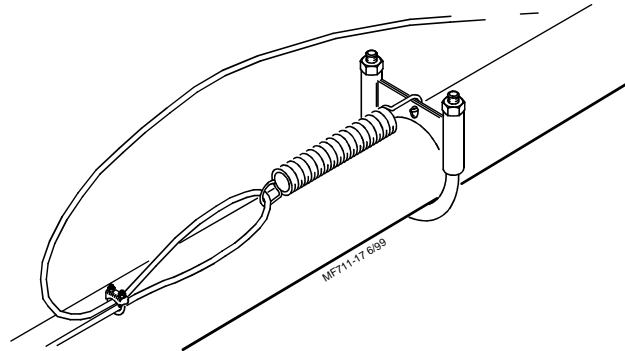

Figure 6.
5. Loop the cable around the end of the Spring and secure with a cable clamp. See **Figure 6**.